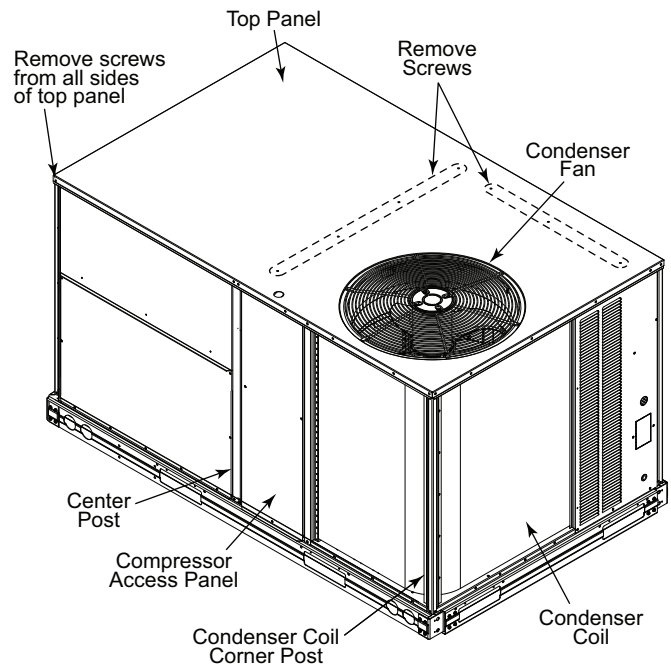

Fig. 15 — Location of Screws and Coil Corner Post
2. Remove all screws from the top panel except the screws securing the condenser fan to the top panel. See Fig. 15.